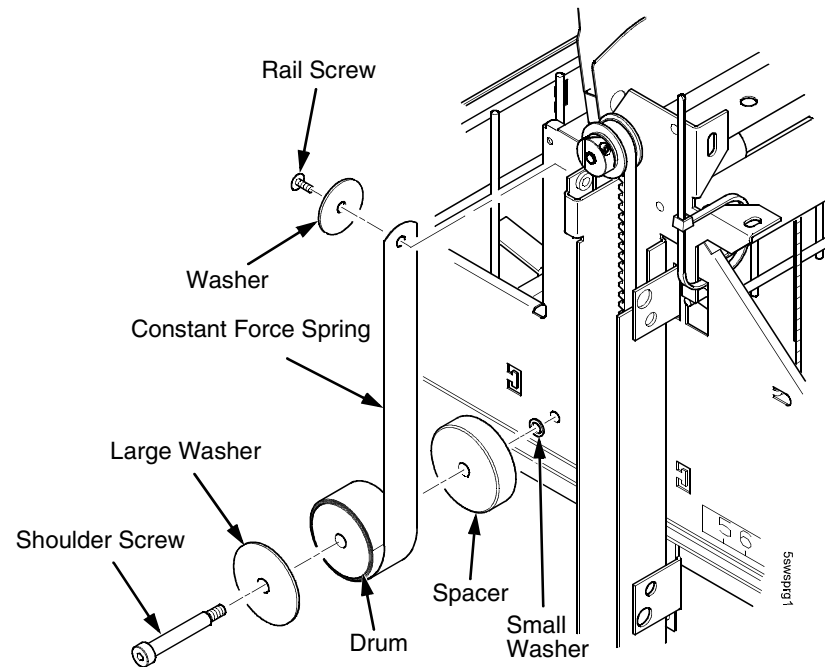

Figure 83. This figure shows how to remove the constant force spring from the stacker assembly.
3. Remove the shoulder screw, large washer, spacer, and small washer from the constant force spring and drum. Let the spring coil itself up until it reaches the top of its travel on the vertical rail. (Figure 83.)
4. Firmly gripping the spring and drum, remove the rail screw and washer securing the spring to the vertical rail. (Figure 83.)
5. Position a new constant force spring on the vertical rail and install the rail screw and washer. (Figure 83.)
6. Install the shoulder screw, large washer, spacer, and small washer as shown in Figure 83.